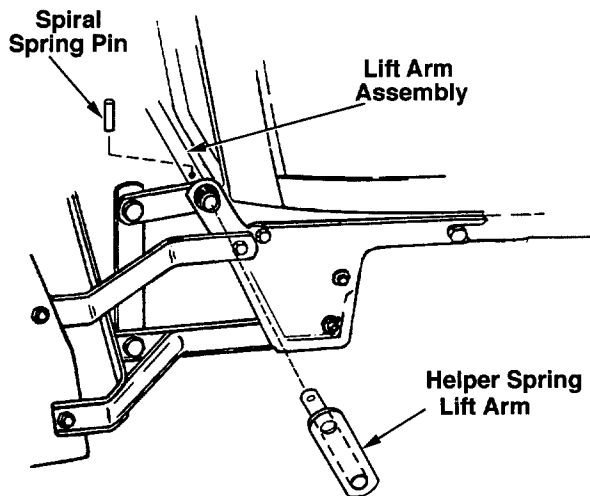

Figure 23
a. With the arm facing upward, slide the helper spring lift arm (3-14) into the left end of the lift arm assembly. Align the holes and drive the spiral spring pin (3-15) into the assembly. See Figure 23.